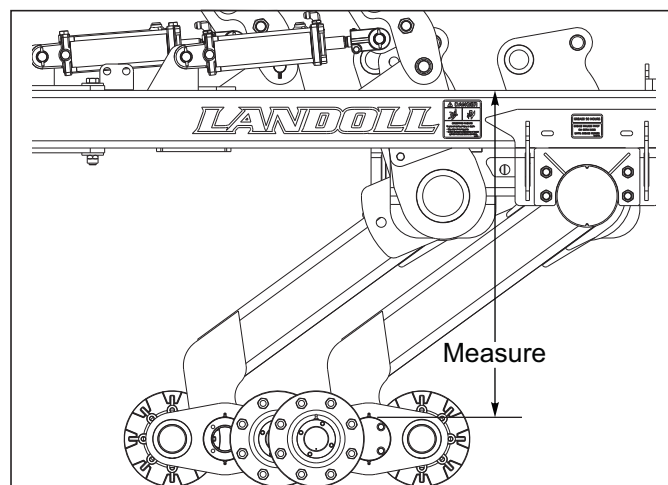
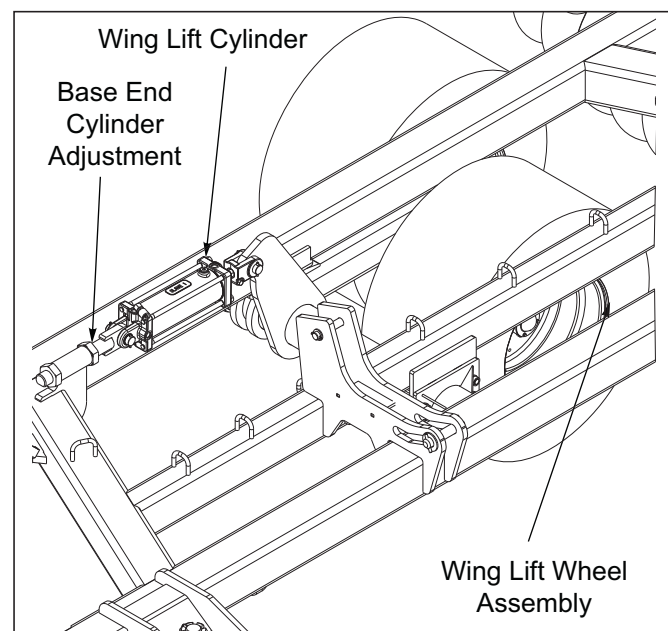

Figure 4-8: Leveling from Side to Side
Figure 4-9: Wing Lift Adjustment
- d. Measure the distance from the gold cap on the side of the walking beam to the top of the frame on both sides. If there is a difference, it needs to be adjusted by turning the cylinder rods with the wrench flats provided at the clevis end **See Figure 4-8.**
- d. On the center frame, measure the distance from the gold cap on walker to the top side of the frame **See Figure 4-8**.
- f. Adjusting the anchor at the base end of each wing lift cylinder sets wing frame height **See Figure 4-9**.
6. An adjusting wrench is provided to make this adjustment. It may be necessary to lower the wing to the ground and relieve weight on the cylinder anchor to make this adjustment **See Figure 4-9**. If required, fully raise the implement, lower to just above the ground, and re-verify measurements **See Figure 4-8**. Repeat as necessary and securely tighten the cylinder anchor when complete.